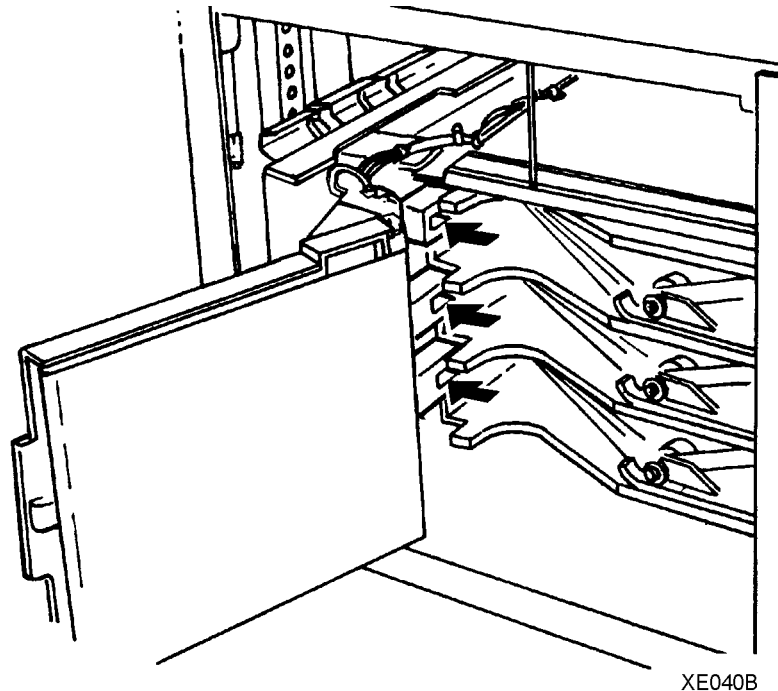

Figure 3-42 Locating the Q1205, Q1206, and Q1207 sensors
3. Locate the Q1205, Q1206, and Q1207 sensors, as shown in figure 3-42.